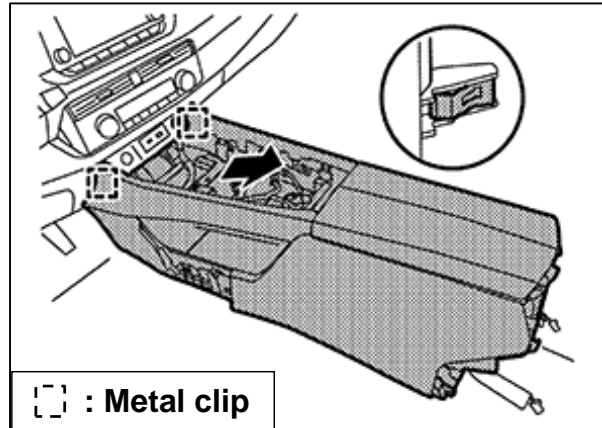

Figure 47
33. Disengage the two (2) fixing metal clips, as indicated by the arrow shown in Figure 47, and then remove the center console assembly.